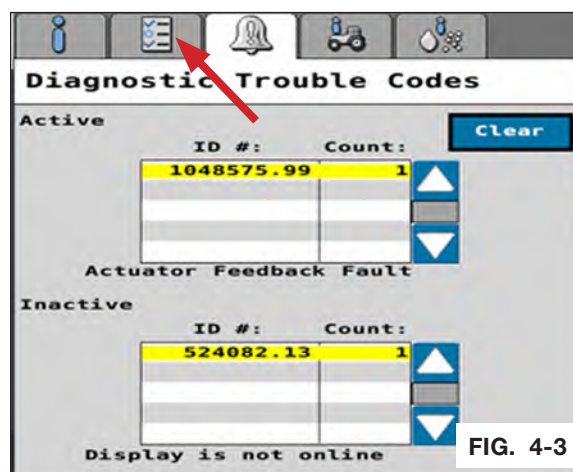

FIG. 4-3
3. In the "Diagnostic" page, select the "Tests" tab. (FIG. 4-3)